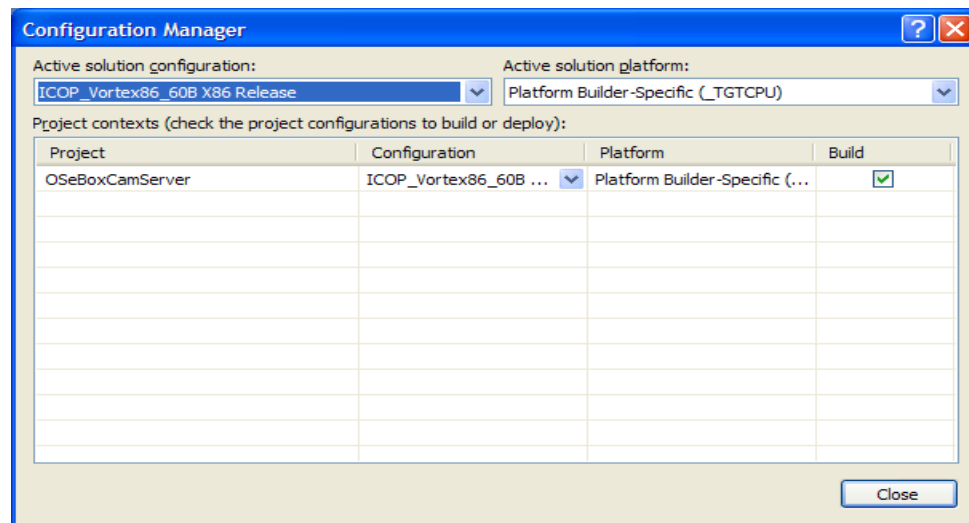

Figure 47. VS 2005 Configuration Manager.
14. From VS2005 IDE, select Build => Configuration Manager. From the Active solution configuration selection options, select ICOP_Vortex86_60B x86 Release as shown in figure 47.